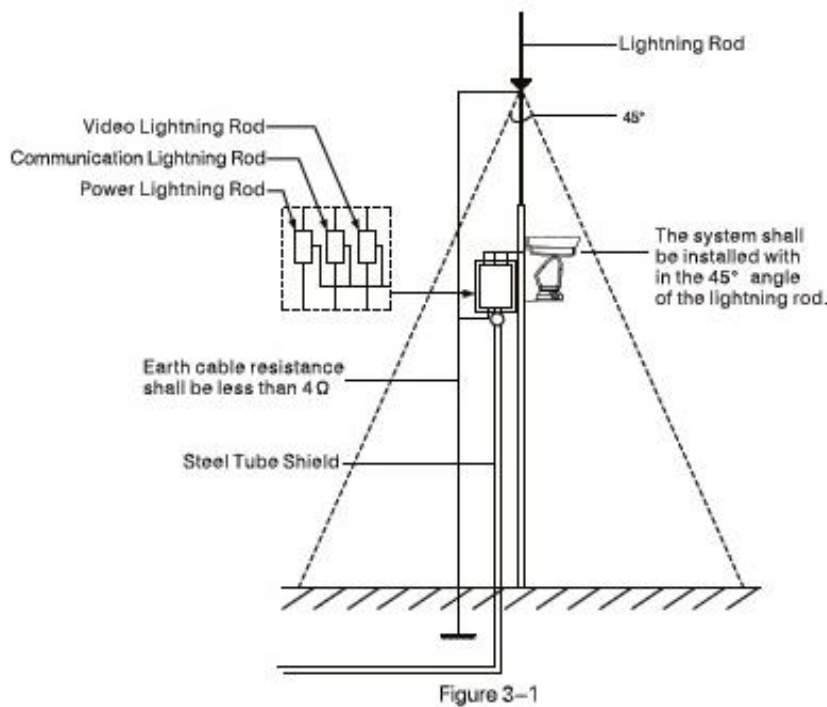

Figure 3-1
- System shall adopt equal-potential wiring. The earth device shall meet anti-jamming and at the same time conforms to your local electrical safety code. The earth device shall not short circuit to N (neutral) line of high voltage power grid or mixed with other wires. When connect the system to the earth alone, the earth resistance shall not be more than  $4\ \Omega$  and earth cable cross-sectional area shall below  $25\ \text{mm}^2$ . See Figure 3-1.